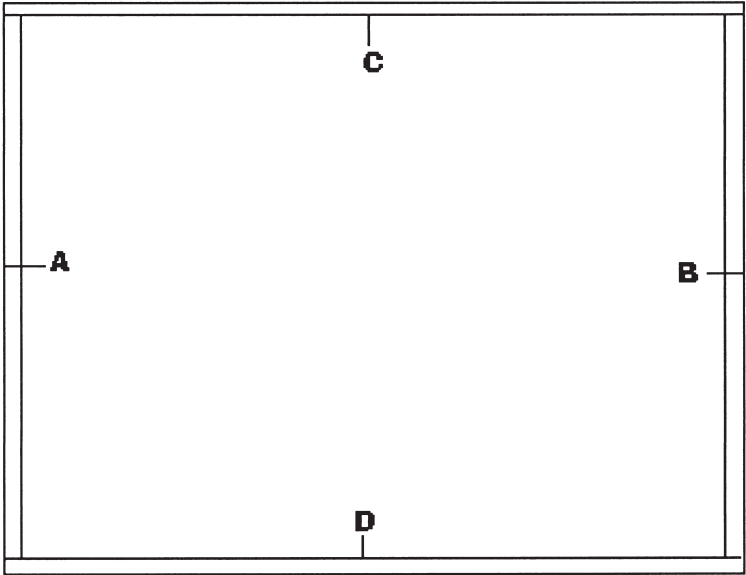

Figure 1
1. Weld A to inside of the end of C at a 90 degree angle. (see Fig. 1)
2. Weld B to inside of the end (opposite A) of C at a 90 degree angle. (see Fig. 1)
3. Weld D to ends (opposite of C) of A & B at a 90 degree angle. (see Fig. 1)